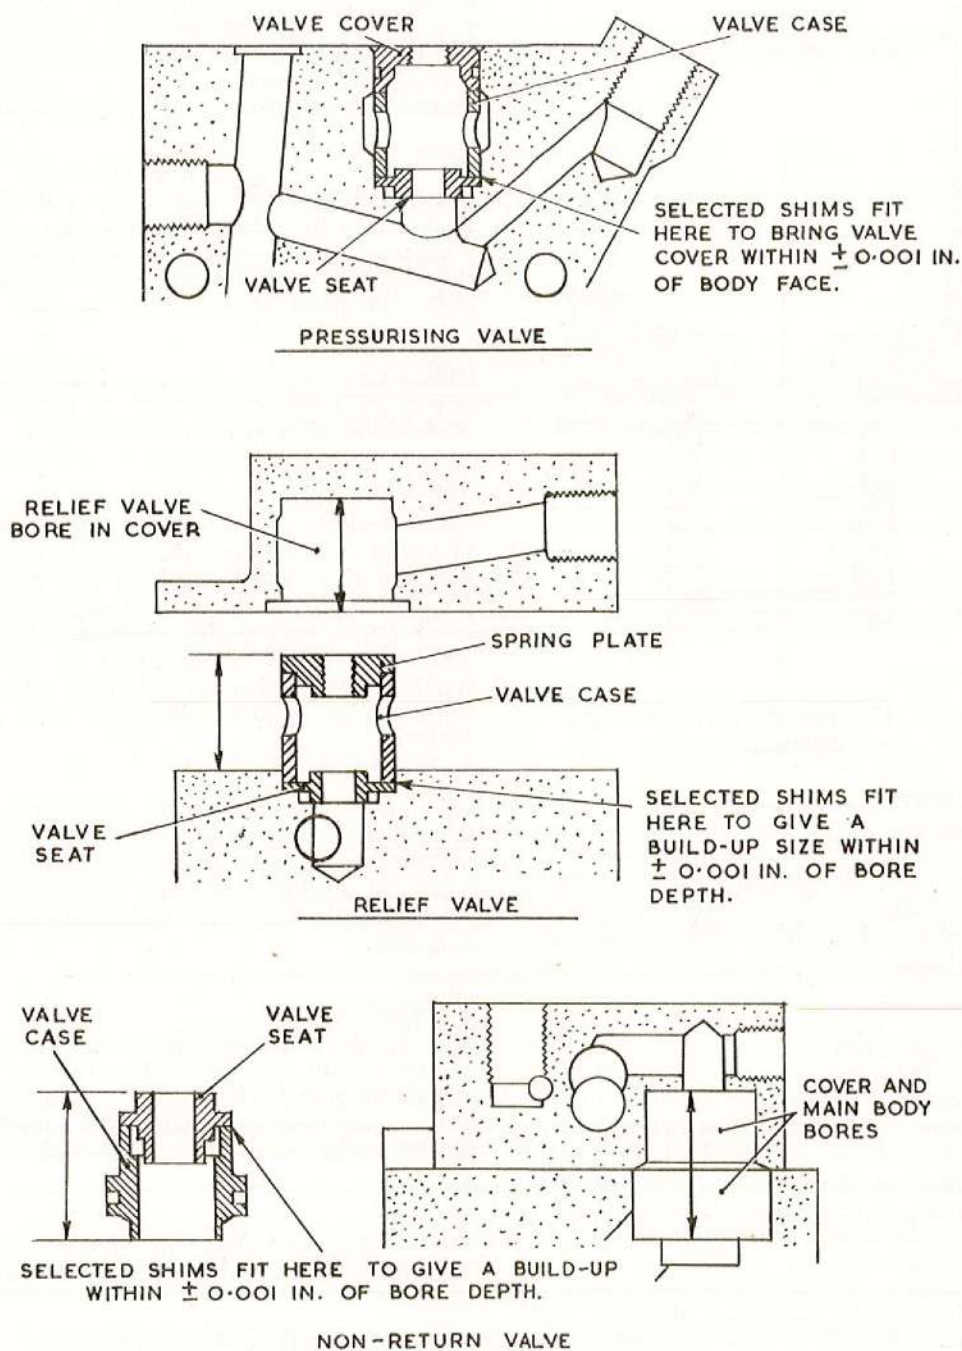

Fig. 7. Setting the main body valves
59. Fit the valve seat (3), valve case (5) and valve cover (8) V-slots uppermost, to the body bore. Place a depth micrometer across the body face, fig. 7 and check the depth from the top of the valve cover. Record the dimension and select shim washers (4) to bring the valve cover within ± 0.001 in of the body face.
60. Remove the parts from the body and fit the sealing ring into the body bore followed by the valve seat (3), selected shim washers (4), valve case (5) pressurising valve (6), spring and shim washers of approximately 0.060 in (7) and valve cover with sealing ring (8).